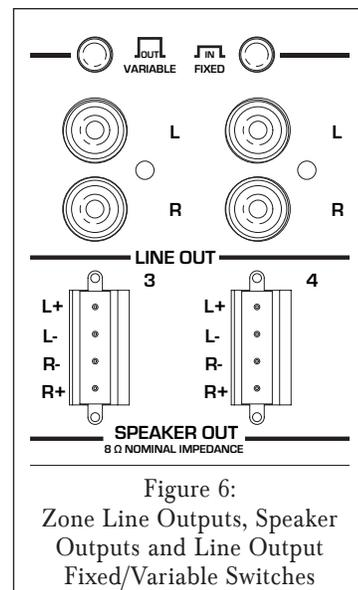

Figure 7:
2. Connect a stereo RCA cable from the appropriate Zone Line Outputs on the C4630 SE to the high-power amplifier's input connectors (see *Figure 7*, on page 14). The **VARIABLE** setting allows the zone's volume to be controlled by the C4630 SE via a keypad or a properly-programmed IR remote.